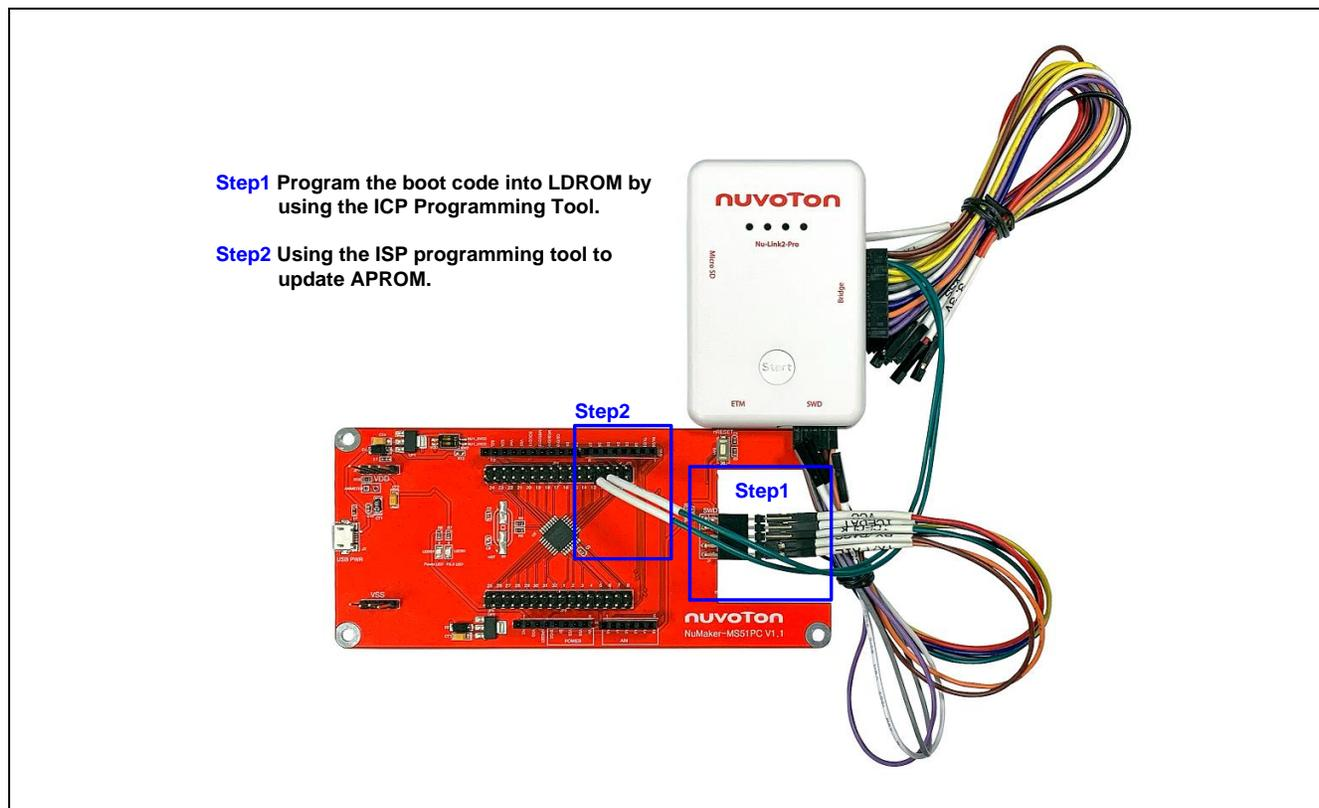

Figure 1-1 ISP programming Steps
1. Program the boot code into LDROM by using a universal programmer or Nuvoton's NuMicro® ICP Programming Tool, and configure the CBS(CONFIG0[7]) to boot from LDROM. The connection is shown as Figure 1-1. Please be noted that the maximum size of LDROM is 4K Byte
2. Using the ISP programming tool to update APROM or CONFIG, and the connection is shown as Figure 1-1.